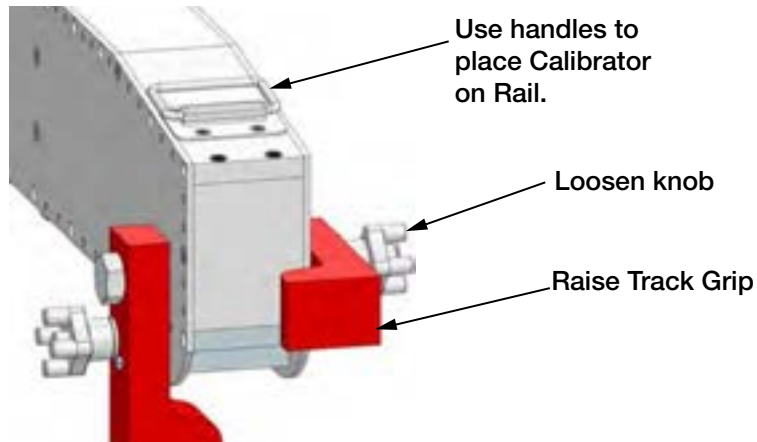

Figure 5-1. RailBoss Calibrator Track Grips
1. Prior to placing the *RailBoss Calibrator* on the track, ensure track grips are arranged as shown in Figure 5-1.